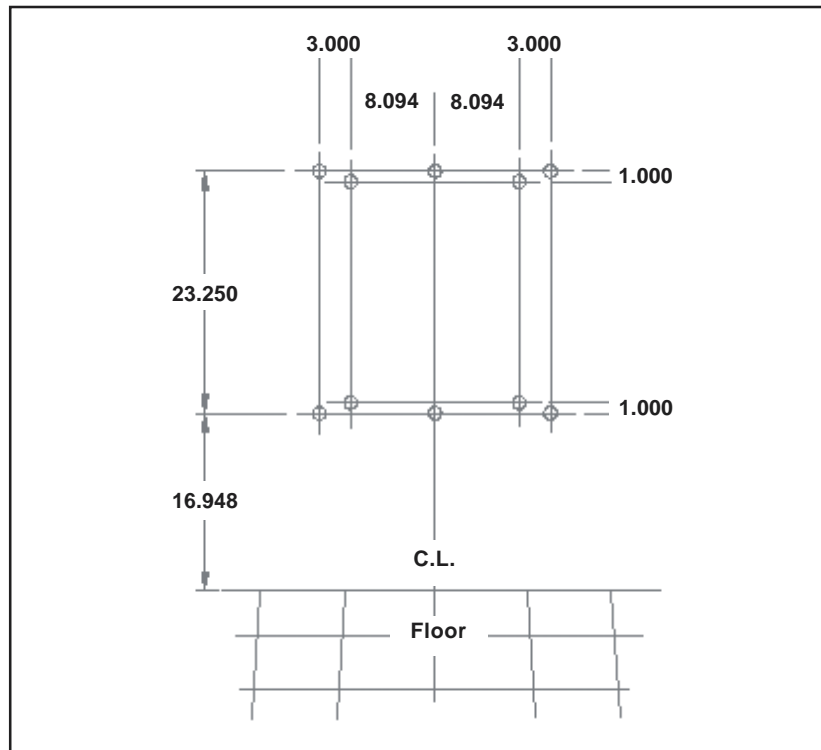

Figure 1. Mounting Dimensions
1. Locate the ten mounting holes. Refer to Figure 1 for dimensions. Select a drill bit size suitable for your selected mounting hardware. **Note:** The 16.948 in. dimension shown in Figure 1 is our recommendation and will result in a table height of about 42 in. You can mount the table higher or lower if it is more convenient for you.